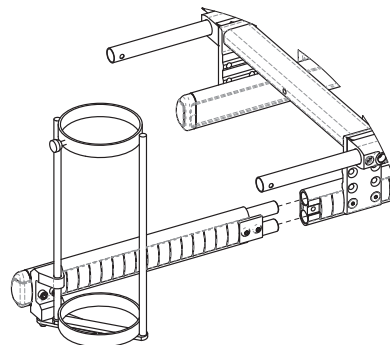

Figure 14.42: Oxygen tank holder
5. Re-fit the metal cable end by inserting into the side of the trigger as shown in Figure 14.42 and feed the cable through to the trigger.